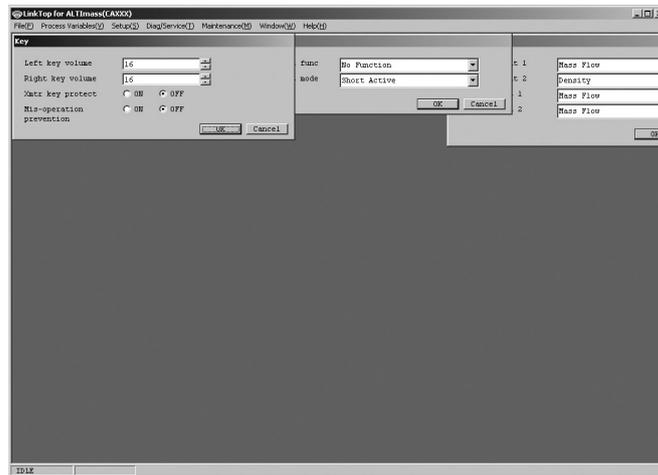

Fig.159
- ③ Select "TileVertical" to display these windows lined up horizontally, as shown in Fig. 159.